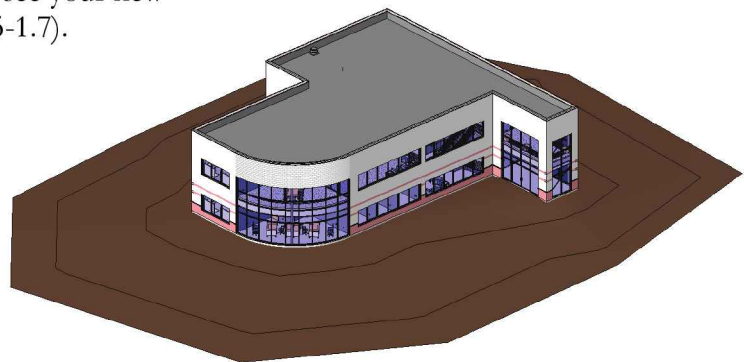

FIGURE 15-1.7 Toposurface seen in 3D view
12. Switch to the **3D** view to see your new ground surface (Figure 15-1.7).